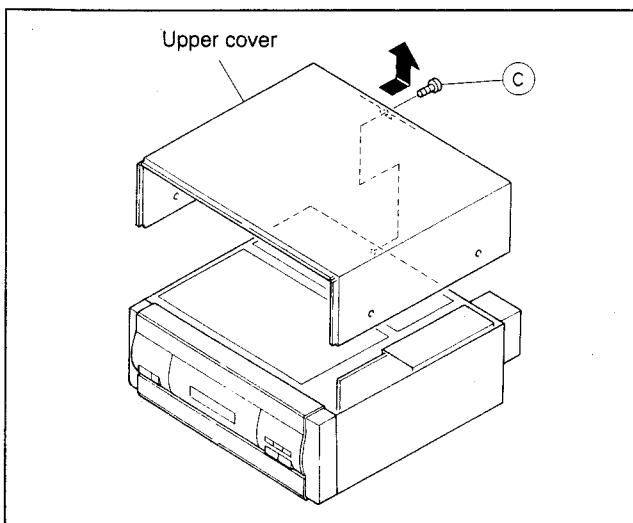

Fig. 1-1B Upper cover 2
5. Remove one screw (C) and slide the upper cover in the direction of the arrow while removing it. (Fig. 1-1B)